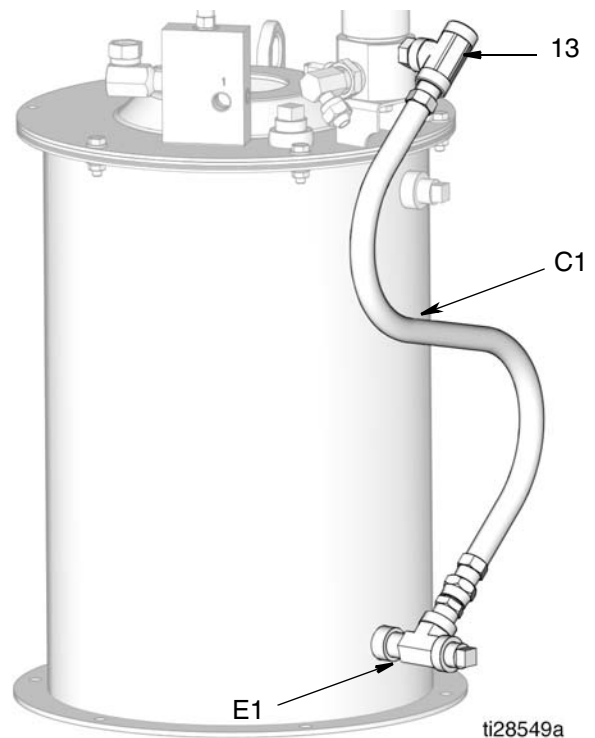

FIG. 25
11. Install the vent hose line (C1) removed in Step 11, page 11, between the fill port fitting (E1) and the tee fitting (13). Refer to FIG. 25.